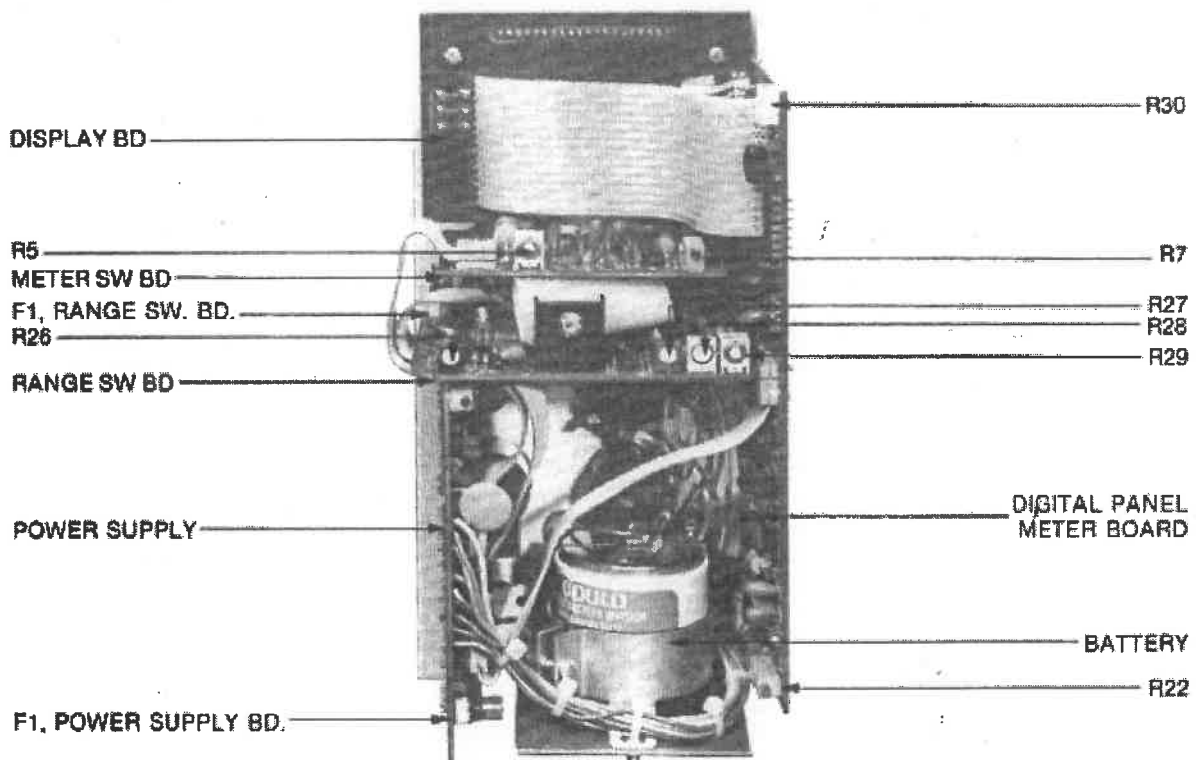

FIGURE 5-2 LOCATION OF CALIBRATION CONTROLS
5.3.2.3 Set the polarity switch of the DC standard to "0" or short the calibrator "+" input lead to the "-" input lead. If the calibrator DPM does not indicate zero, ± 2 digits, adjust R27 on the RANGE SWITCH board. Refer to Figure 5.2 for the location of the adjustment controls.